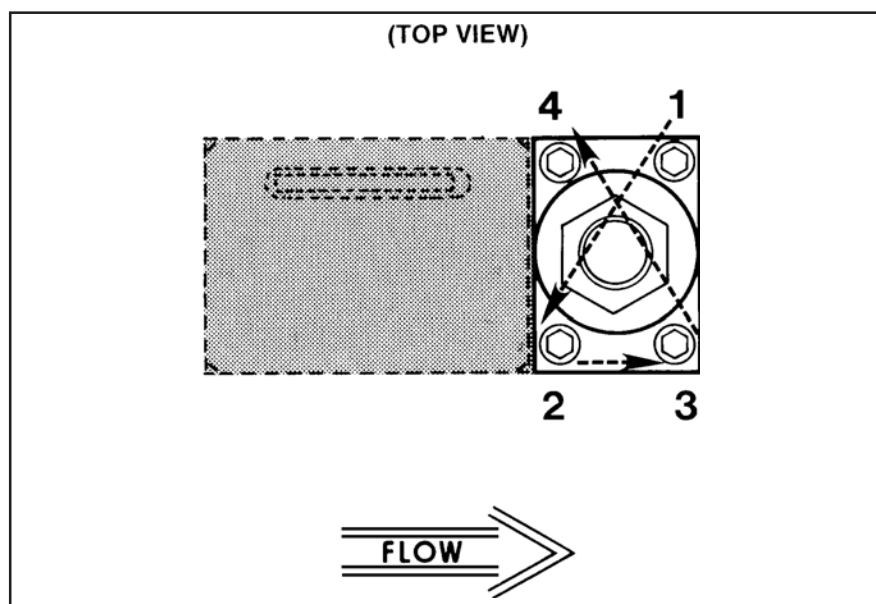

Figure 4-1 Torque Sequence for the Valve Retainer Plate
3. Press the lubricated sensor O-rings (17) into the flow controller body (14). Install the sensor assembly and secure with two screws (18) and washers (19) tightened to 15 in/lbs.
4. Install the orifice (12) and its O-ring (13), using a 3/8 nut driver. Insure that the orifice is fully seated but do not overtighten.
5. Insert the valve preload spacers (10)(NC Valve) or (33)(NO Valve), if used, into the valve cavity in the flow controller body (14). Use care to preserve the correct order.
6. Place the spacers (9) and spring (8) on the valve seat (11) in the same order as noted in step 8 of the disassembly. Screw the valve seat (11) into the plunger assembly (7)(NC Valve) or (35,31,32)(NO Valve). Tighten the assembly until there is no looseness, but do not over-tighten.
7. Install the valve plunger assembly (7, 8, 9 and 11)(NC Valve) or (35,31,32,8,9,11)(NO Valve) on the preload spacers (10). Install air gap spacers (10), if used on top of the valve spring.
8. Install the valve stem assembly (6), secure with the valve retaining plate (4) and four hex socket screws (3). When installing the screws they should first make light contact with the plate, which should be checked to insure that it makes full contact around the stem assembly. Torque
- the screws securing the valve retaining plate in diagonal pattern (Refer to Figure 4-1) to 17 in/lbs.
9. Install the coil assembly (2) over the valve stem assembly (6)(NC Valve) or (34)(NO Valve) install extension spacer nut (3)(NO Valve) and secure with jam nut (1).
10. Install the printed circuit (PC) Board (15), secure with the bracket (24) and two screws. Plug the connector from the sensor assembly onto the PC Board. The flow arrow on the connector should be pointing toward the valve assembly.
11. Install the electronics cover (23) on the controller, secure with three screws (20). Plug the connector from the valve coil into the PC Board through the hole in the electronics cover.